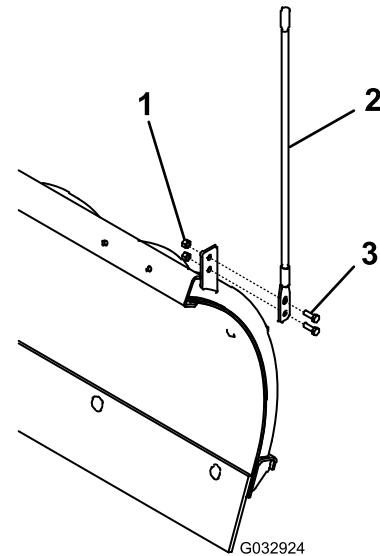

Figure 12
1. Attach the blade guides to the plow blade using 4 bolts (5/16 inch) and 4 self-locking nuts (Figure 12).